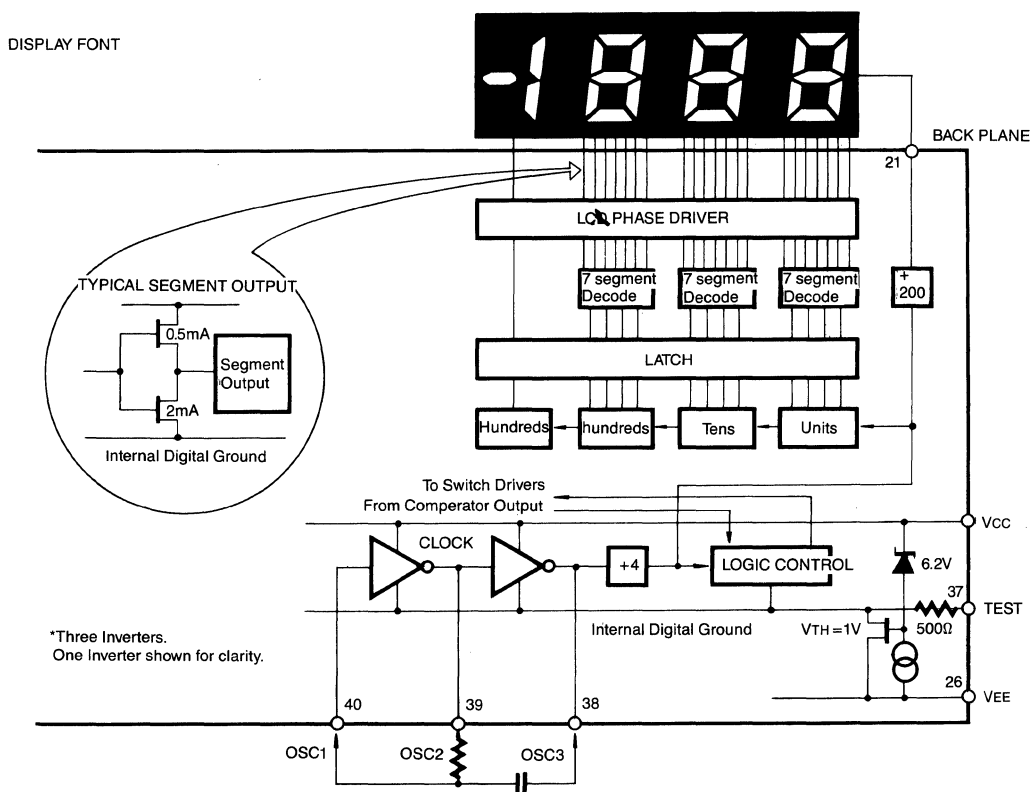

Fig. 7: Digital Section
Fig. 7 shows the digital section for the 7126. An internal digital ground is generated from a 6 volt zener diode and a large P channel source follower. This supply is made stiff to absorb the relative large capacitive current when the back plane (BP) voltage is switched. The BP frequency is the clock frequency divided by 800. For three readings/second this is a 60Hz square wave with a nominal amplitude of 5 volts. The segments are driven at the same frequency and amplitude and are in phase with BP when OFF, but out of phase when ON. In all cases negligible DC voltage exists across the segments. The polarity indication is "ON" for negative analog inputs. If IN LO and IN HI are reversed, this indication can be reversed also, if desired.